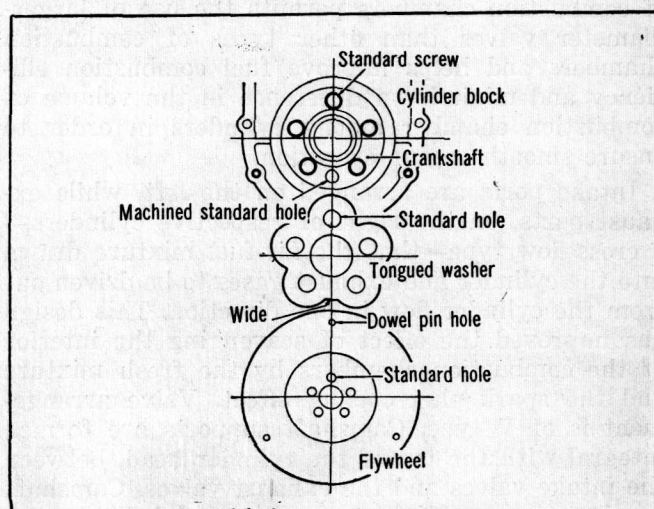

Fig. 24 Installing the Flywheel
(14) Lower the engine from the engine service desk.
(15) Install the heater pipe assembly and connect to both the intake manifold and the water pump.
(16) Install the rear plate.
(17) Install the flywheel; and after tightening bolts, lock it against rotation by bending tongued washers. (Fig. 24)
whose holes are arranged at unequal pitch against the crankshaft. Flywheel installation can be done easily by using one bolt hole as a standard hole as shown in Fig. 24.